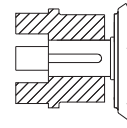

Figure 2. Place coupling flush with end of motor shaft and tighten setscrew.
Each sugar scoop includes the coupling for the motor and the coupling guard. The coupling guard must be mounted when the machine is in use. NORD's standard supplied coupling is the jaw type. Make sure the set screw is tighten after coupling is in place. The coupling hub or sprocket should be mounted per Figure 2.
2. Mount the coupling onto the motor. Place the coupling so that the inside face is flush with the end of the motor shaft (see Figure 2). The coupling should be heated prior to assembly, generally 250°F to 300°F (120°C to 150°C). ***DO NOT HEAT THE URETHANE SPIDER.** Once in place, tighten the setscrew into the motor shaft to lock coupling in place.